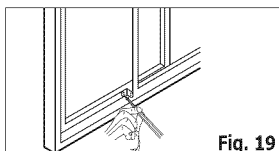

Fig. 19
7. To secure the sliding sash in place, attach right angle sash lock with 12.7mm (1/2") screw as shown.(Fig.19)